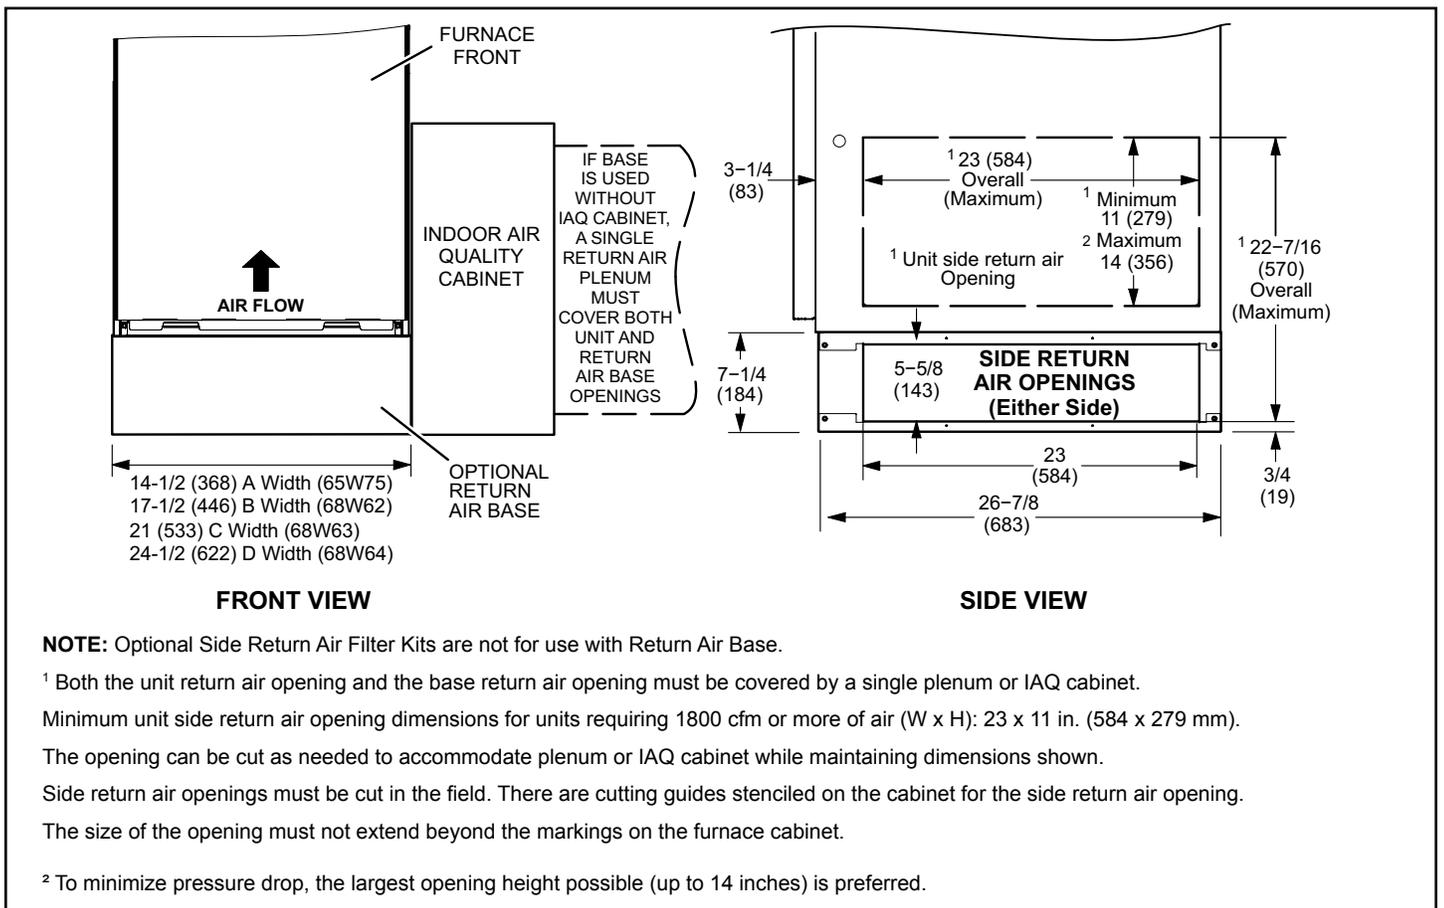

Figure 11. Optional Return Air Base (Upflow Applications Only - For use with A, B, C and D cabinets)
2. Single side return air with optional return airbase. See Figure 11.